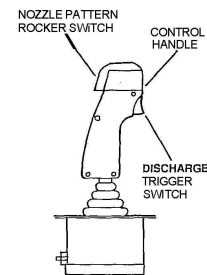

Figure 1-5. JoystickRoof Turret Control.
- (2) Set the RATE switch (1) to the desired discharge rate (750 or 1500 GPM).
- (3) On the fire truck control panel, place the PUMP switch in the ON position. This will activate the agent pump. Associated green indicator light will illuminate. If foam is required, place FOAM switch at the ON position. Associated indicator will illuminate.
- (4) Use the nozzle pattern rocker switch on the joystick control (Figure 1-5) to select the desired discharge pattern (either solid stream or dispersed).